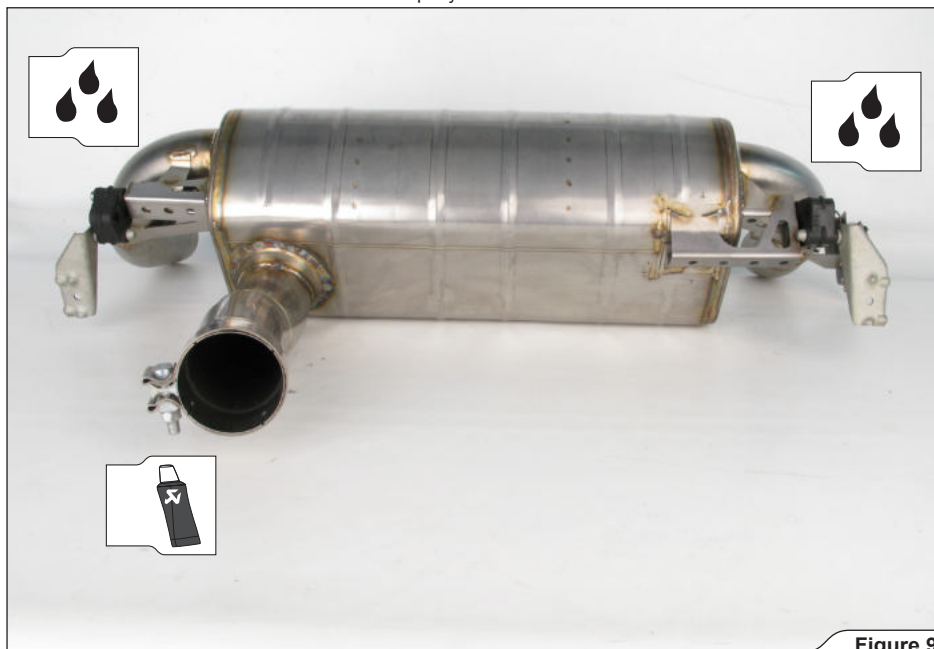

Figure 9
3. Assemble the stock muffler rubber brackets onto the muffler and attach the clamp from Akrapovič installation kit onto the muffler's inlet, as shown (**Figure 9**).